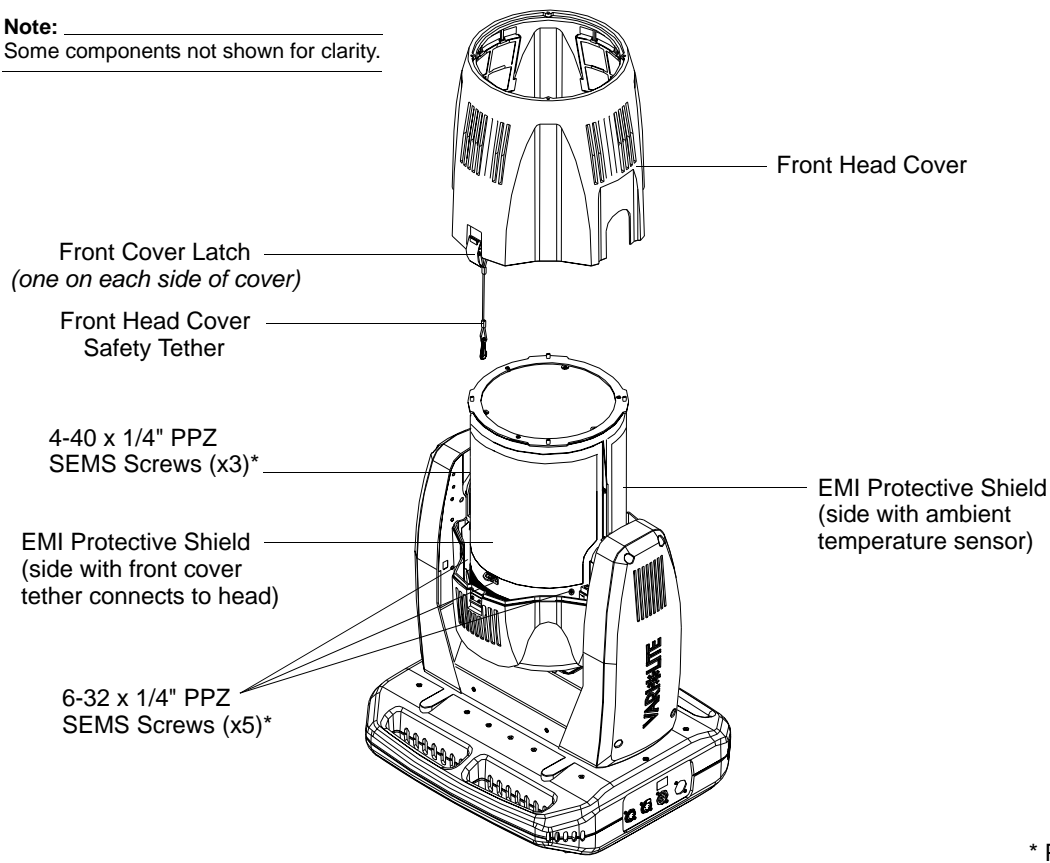

Figure 2-23: Front Head Cover and EMI Shields Removal
Step 5. Remove protective EMI shields from around optics assembly as shown in Figure 2-23 as follows: